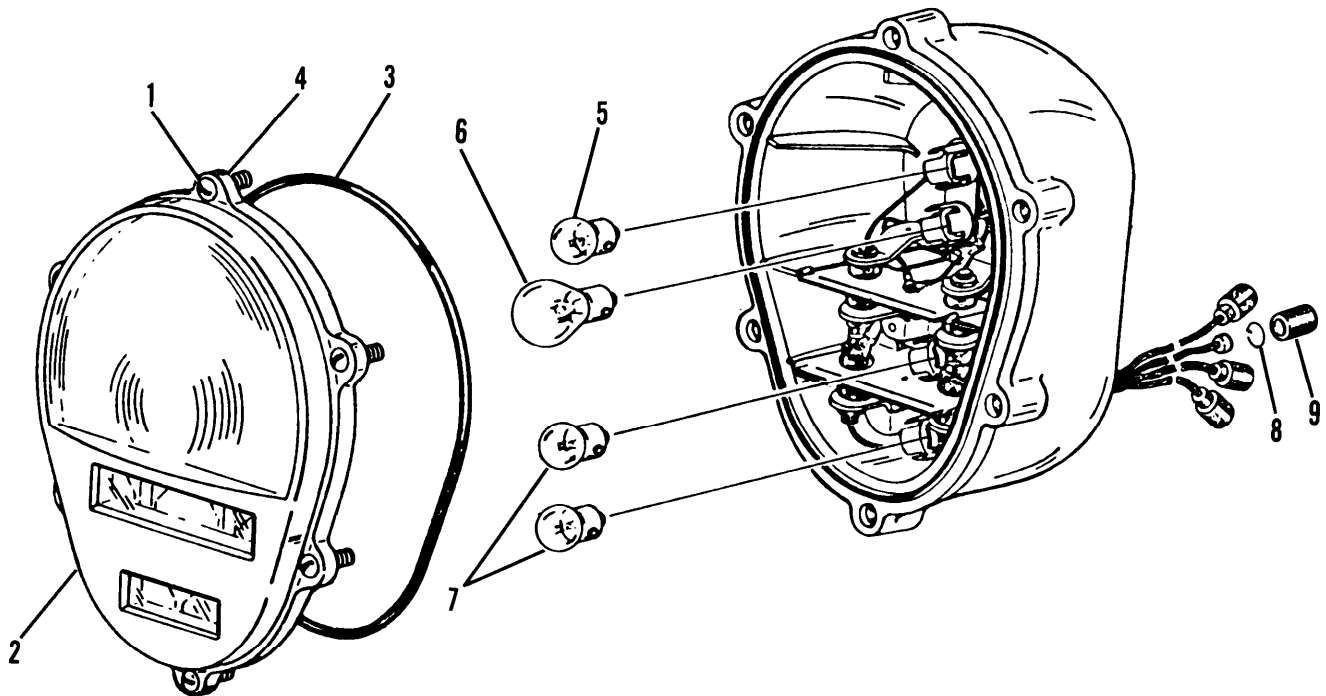

Figure 4-9. Composite Light Assembly
- (1) Unscrew six captive screws (1, fig. 4-9) on door (2).
- (2) Remove door (2) and gasket (3). Captive screws (1) are fitted with retaining rings (4) and will remain in door. Discard gasket (3) from door (2) 1
- (3) Remove lamps (5, 6, and 7) from sockets.
- (4) Remove C-washers (8) and shells (9) from end of cables.
- (1) Install shells (9, fig. 4-9) and C-washers (8) on end of cables.
- (2) Install lamps (5, 6, and 7) in sockets.
- (3) Install door (2) and new gasket (3).
- (4) Secure door (2) with six captive screws (1).